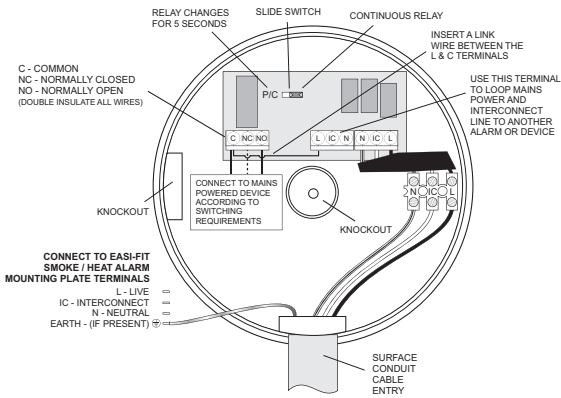

Figure 1a - Ei128R - Wiring details for connecting to a mains powered voltage device
2. Screw the Relay Base to the ceiling after first removing the required knockout and bringing the house wires through it (see figure 1a for Ei128R & figure 1b for Ei128RBU). If the central knockout is being used, seal around the wires with silicone or similar to prevent air draughts affecting the smoke entering the alarm.
2. Screw the Relay Base to the ceiling after first removing the required knockout and bringing the house wires through it (see figures 1a & 1b).
3. Connect the three wires (L - Live, N - Neutral and IC - Interconnect) from the Carbon Monoxide / Smoke / Heat Alarm to the alarm relay module as shown in figures 1a & 1b. The IC - Interconnect wire must be connected even if it is a single alarm installation.
As an Easi-fit Alarm is not being mounted on top of the Relay Base, remove the three cables (for the Easi-fit Alarm connection) from the terminal block and discard (see figures 1a & 1b).
Connect the wires to the required relay contacts for controlling the auxiliary device (the contacts are isolated and are rated at 250VAC, 5 Amps resistive). If momentary (pulse) relay operation is required, carefully and gently slide the yellow switch to the 'P' position with a small screwdriver (see figures 1a & 1b).